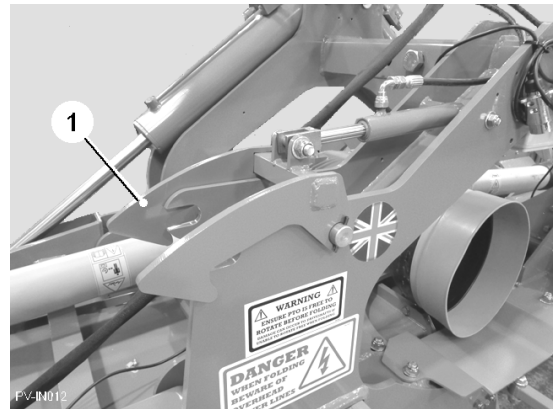

Fig. 4
4. Operate the hydraulic service. The transport latches (item 1, fig. 4) will automatically open releasing the wings.
5. Ensure transport latches (item 1, fig. 4) locate correctly to lock the wings into the vertical transport position.